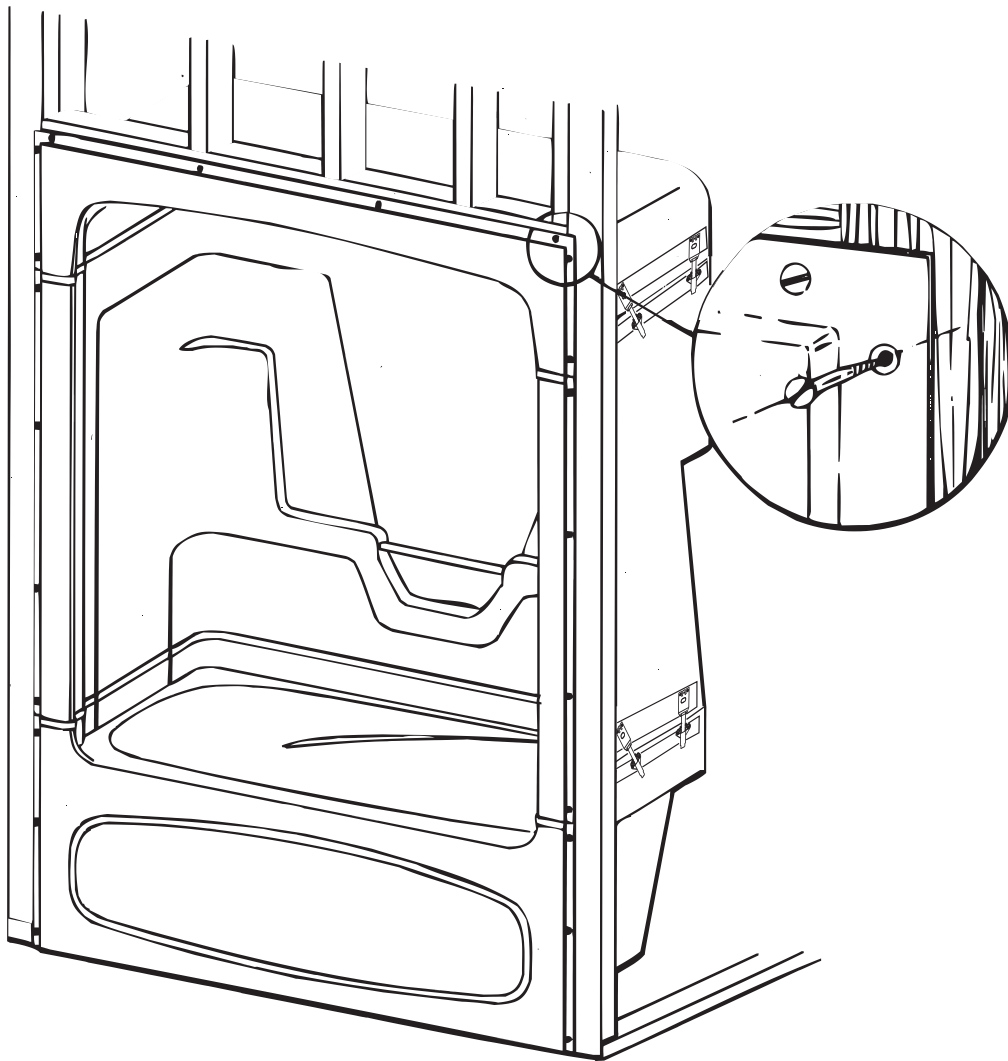

FIGURE 2 - FASTENING
- The shower is fastened in place using dry wall screws. Holes are to be drilled in the flange on both sides and across the top. The holes are to be drilled by the installer, installation is illustrated in figures 2.